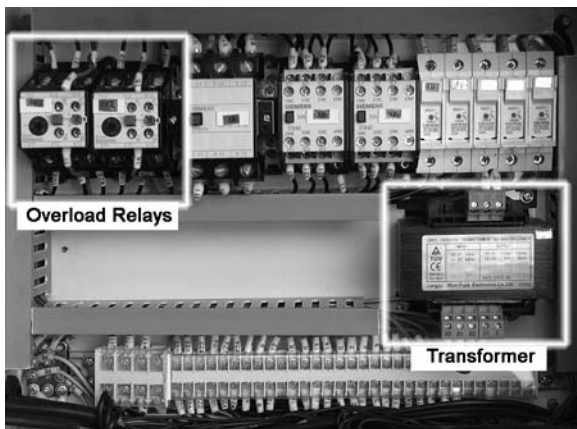

Figure 22 – Voltage conversion elements
4. **Transformer:** Open electrical box on rear of machine on the headstock side. Switch wire from 230V terminal to 460V terminal as outlined on the transformer label (Figure 22).
5. **Overload Relays:** In the electrical box, turn down the dials on *both* of the relays (Figure 22) to the appropriate amperage. That is, from 4.0 to 2.5 on the first relay, and 1.0 to 0.63 on the second relay.